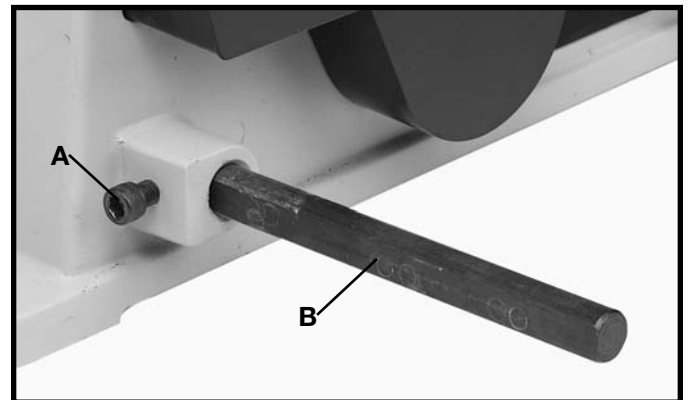

Fig. 11
1. Thread a M8x1.25x20mm hex socket head screw (A) Fig. 11, part-way into threaded hole in base of sander and insert rod (B) into hole as shown. Align flat on rod (B) with screw (A) and tighten screw (A).